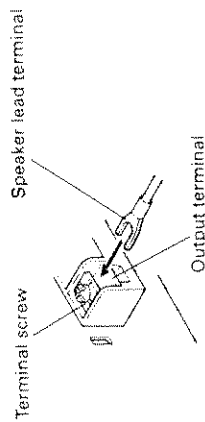

Fig. 1
2. Insert each speaker lead terminal into an output terminal according to the selected mode. (Fig. 1)